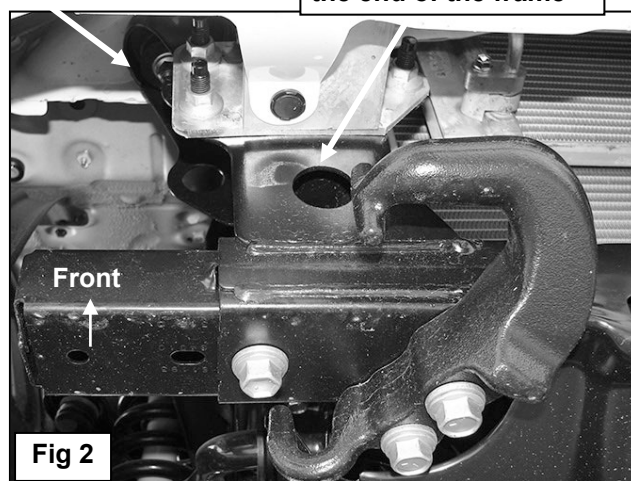

Fig 3 Passenger/right frame Bracket for Side Installation Pictured
3. Select the passenger side Frame Bracket, (**Figure 3**). Slide the Bracket over the (2) studs. Attach the Bracket to the studs with the factory hex nuts, (**Figures 4 & 5**). Leave hardware loose.